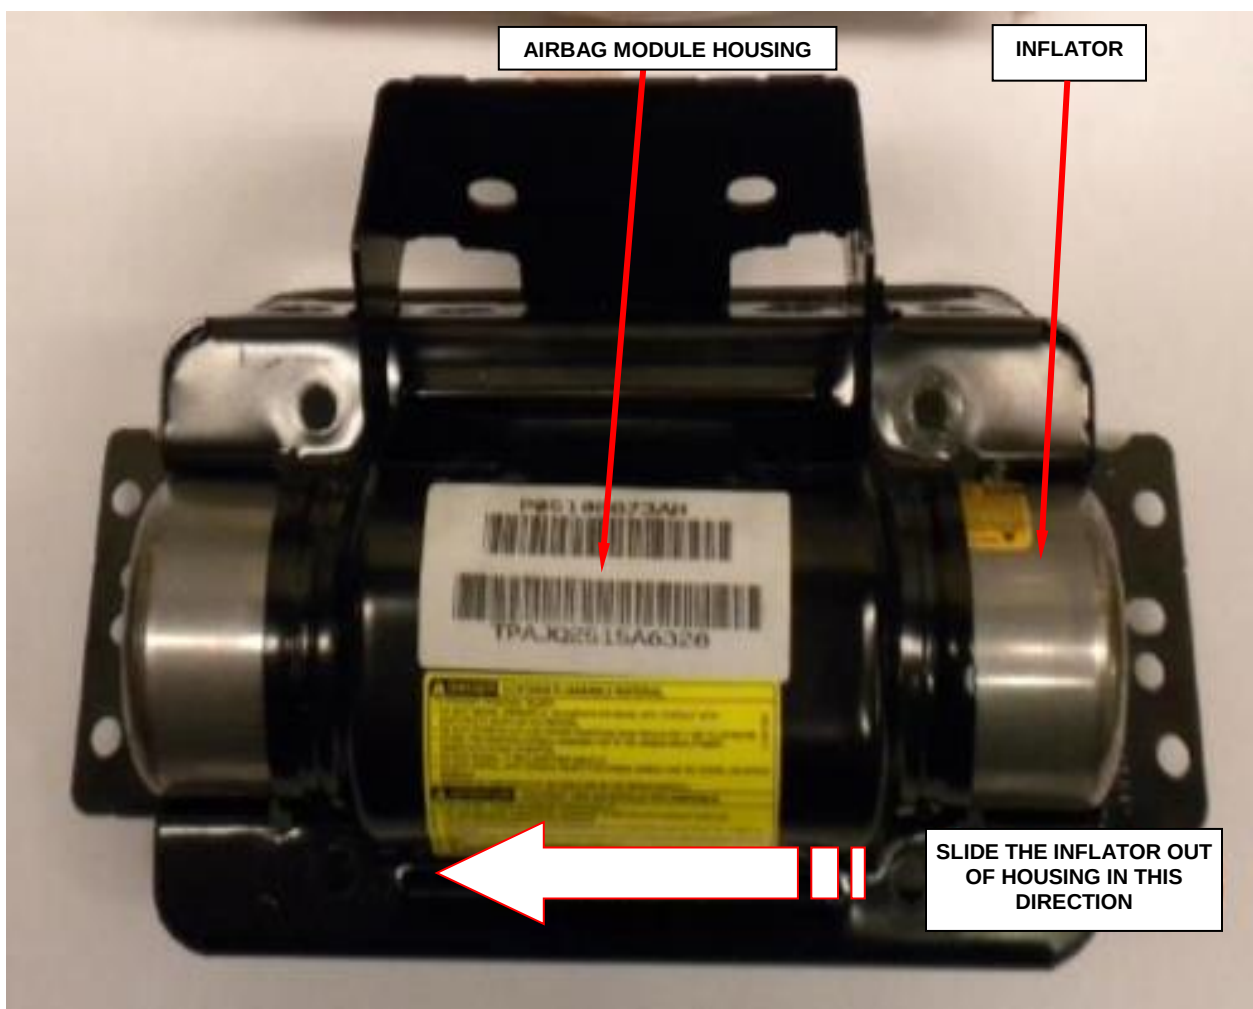

Figure 81 – Remove Airbag Inflator
- k. Slide the inflator out of the passenger airbag module housing (Figure 81).